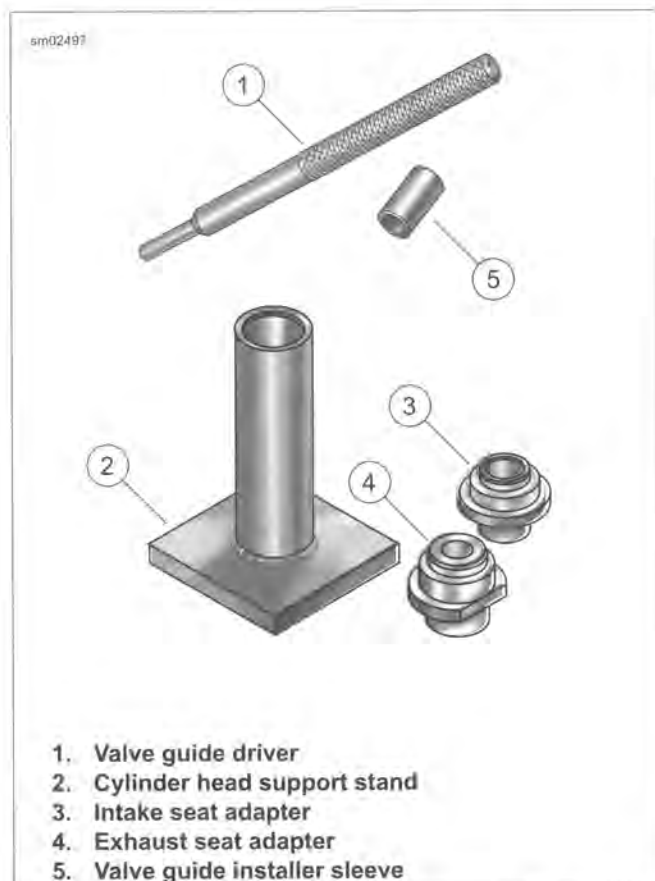

Figure 3-41. Valve Guide Replacement Tools
1. See Figure 3-41. Prepare cylinder head for valve guide replacement.
- b. Insert sleeve of appropriate seat adapter (3 or 4) into tube at top of support stand (2).
- a. See Figure 3-41. Insert sleeve of the appropriate seat adapter (3 or 4) into tube at top of support stand (2). Position cylinder head so that valve seat is centered on seat adapter.